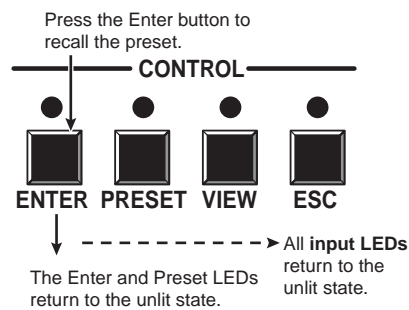

Figure 3-40 — Press the Enter button
4. Press and release the Enter button (figure 3-40). The configuration stored in memory location 13 is now the current configuration and can be viewed in the *View-only* mode (see example 4).